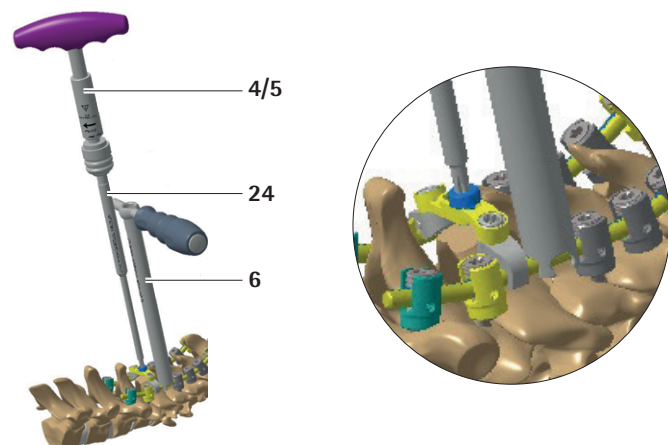

Fig. 46
- ▶ Once correctly placed, tighten the set screws, see Fig. 46, see Chapter 3.16.